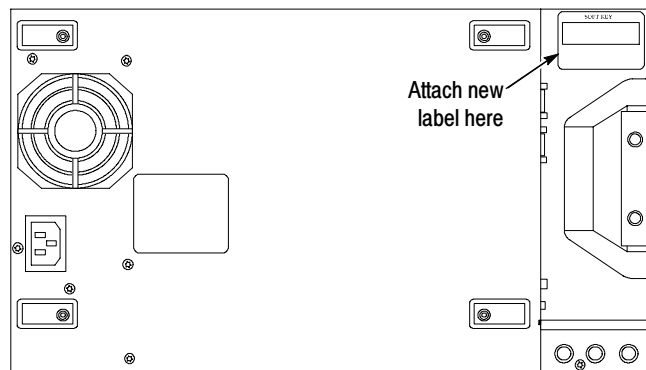

Figure 1: Label location on the notched-in portion of the rear panel
6. Attach the label to the notched-in portion of the rear panel (see Figure 1). You can attach the new label over the existing one.